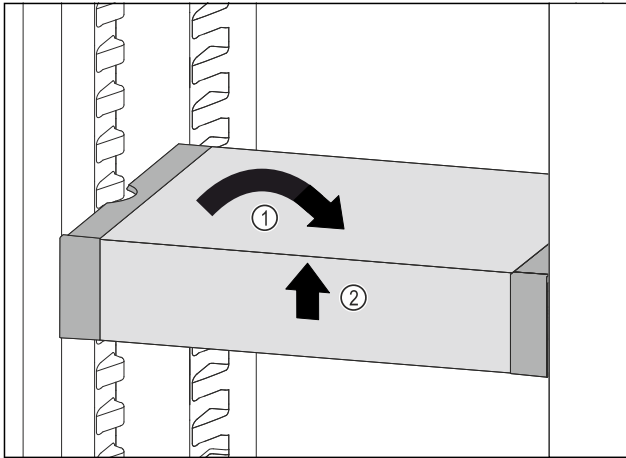

Fig. 93
- Set VarioSafe straight. *Fig. 93 (1)*
- Lift VarioSafe at the front. *Fig. 93 (2)*